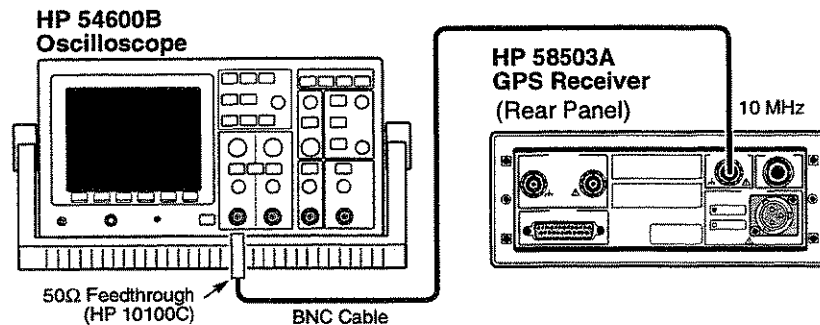

Figure 1. HP 58503A 10 MHz Operational Verification Setup
- 2 Connect the oscilloscope to the rear-panel 10 MHz OUT output of the HP 58503A as shown in Figure 1.